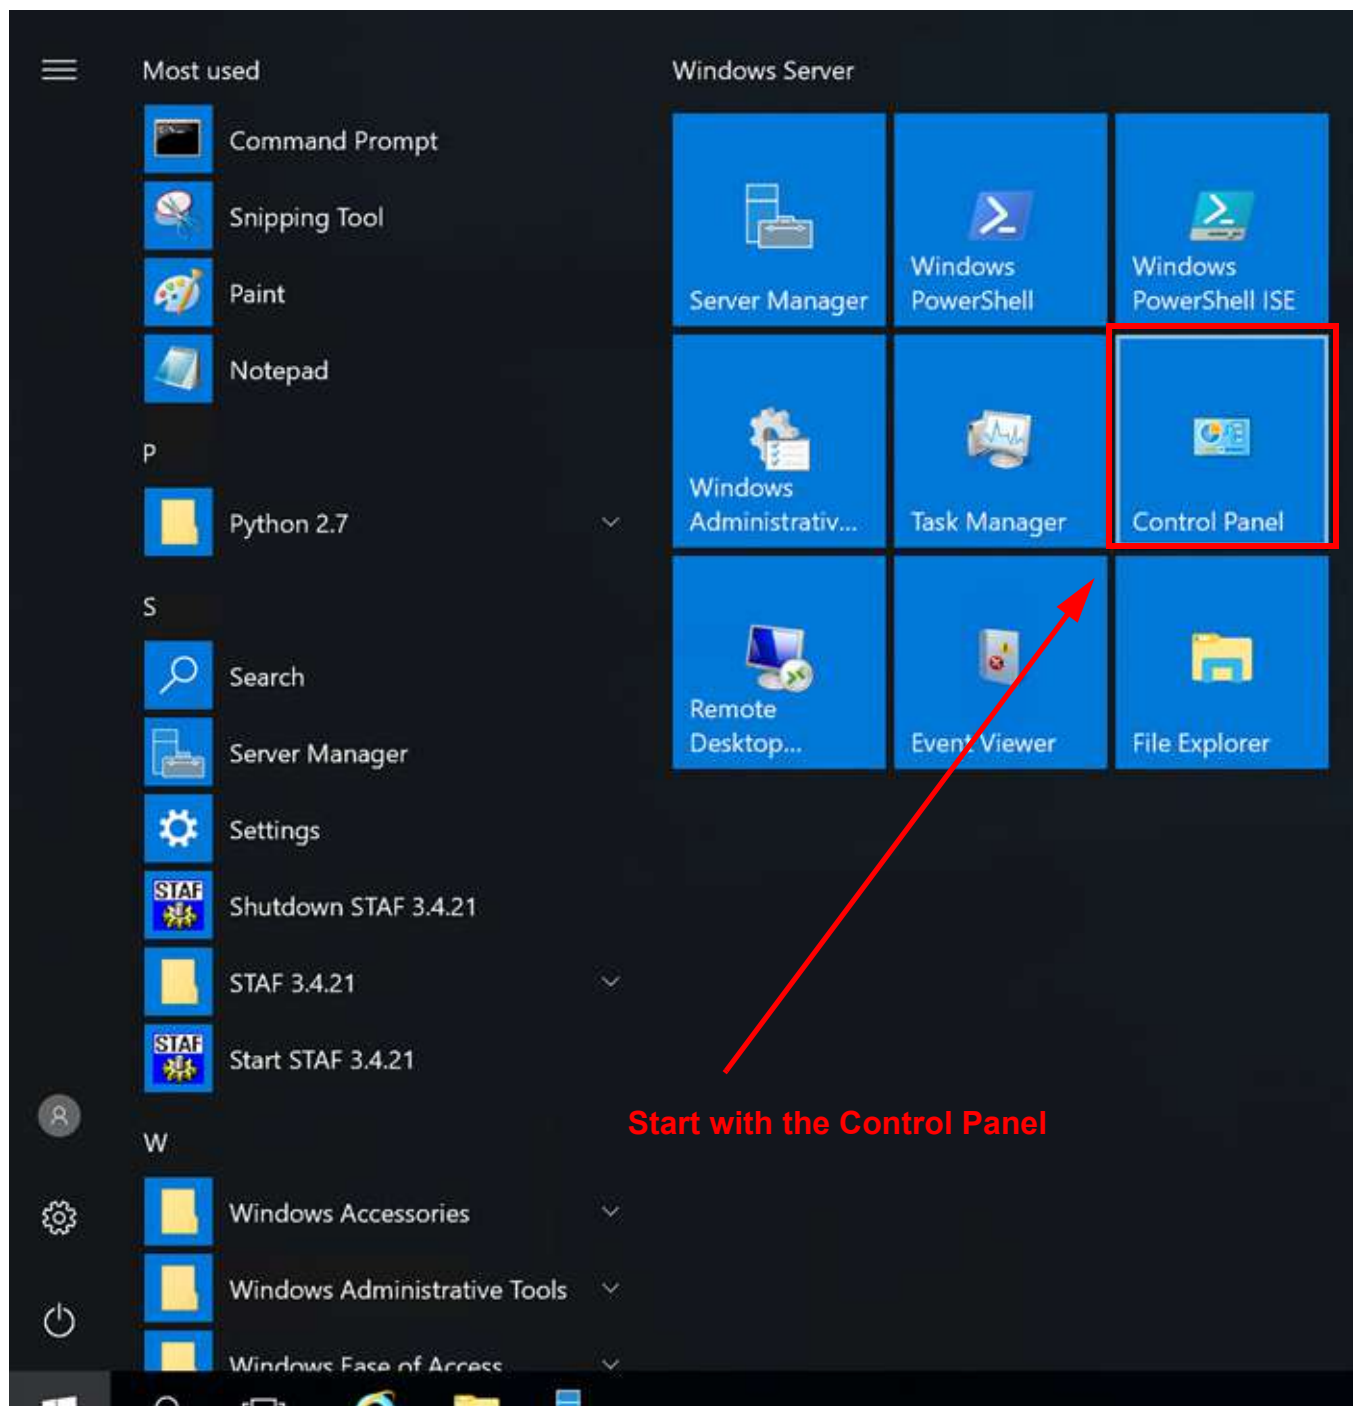

Figure 3.1: Windows Server 2016/2019: Start Menu -> Control Panel
1. Open the Control Panel. See Figure 3.1.